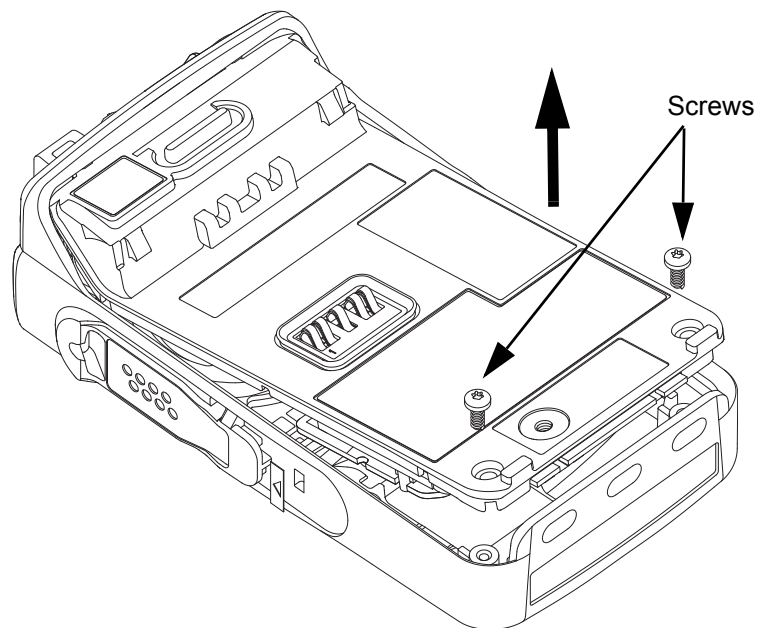

Figure 5-3. Chassis Screw removal
- a. Unscrew the screws using a TORX™ T6 screwdriver as shown in Figure 5-3.